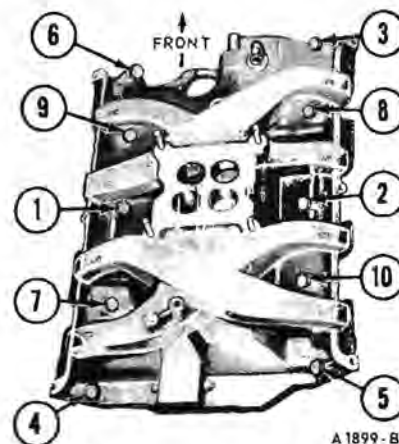

FIG. 18—Intake Manifold Torque Sequence
7. Be sure the holes in the manifold gaskets and manifold are in alignment. Apply a non-hardening, oil-resistant sealer under the head of each bolt, and install the manifold retaining bolts. Torque the bolts to specifications in sequence as shown in Fig. 18.